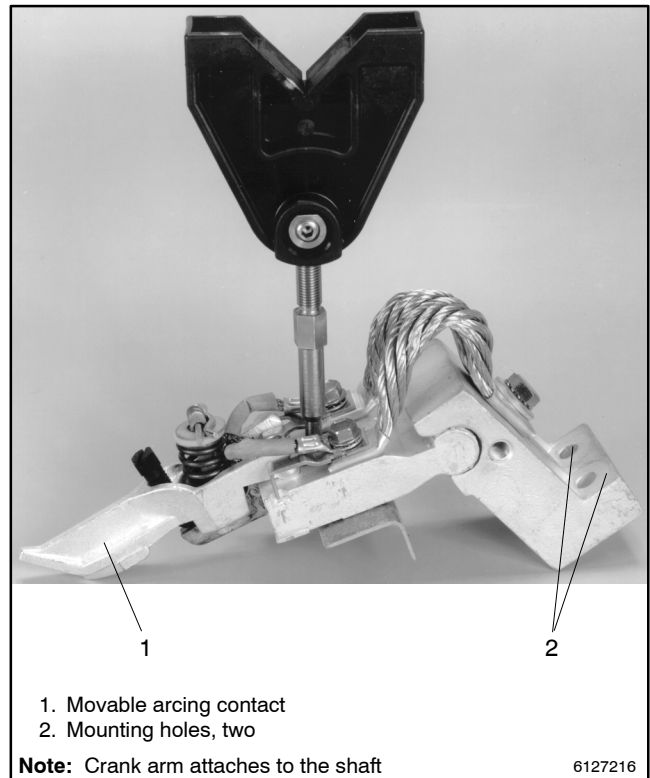

Figure 9-14 Movable Contact Assembly
3. Remove the movable contact assembly. Use a 1/2 in. socket wrench with 12 in. extension to remove two nuts with lock washers from the base of each movable contact assembly. See Figure 9-14.